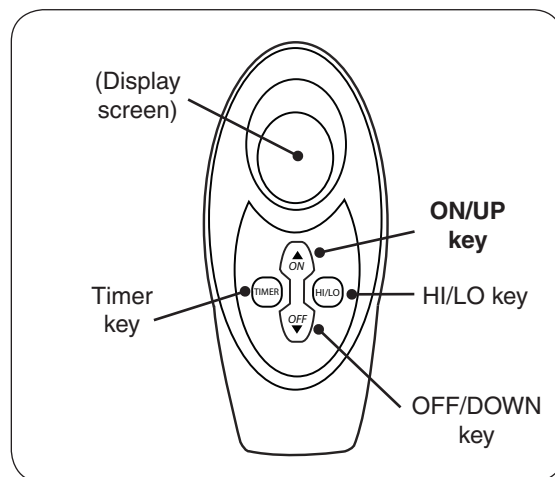

Fig. 11-2 Remote transmitter detail
2. Locate the remote transmitter and press the **ON** key (see Fig. 11-2). The ignition sequence will begin.